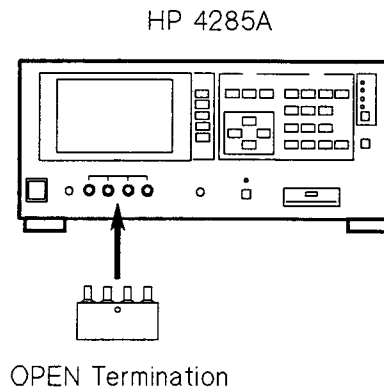
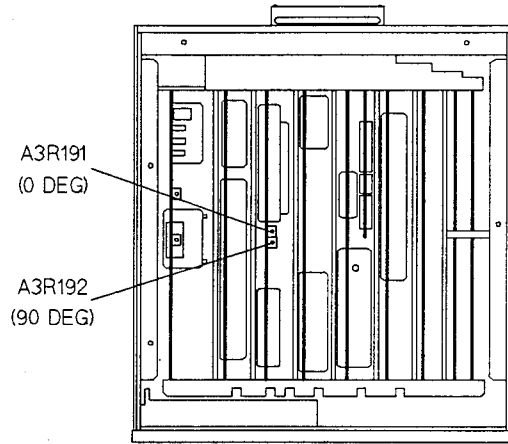

Figure 2-11. Zero Offset Adjustment Setup
Figure 2-12. Zero Offset Adjustment Location
3. Perform the Zero Offset adjustment according to the program instructions. Figure 2-11 shows the adjustment setup, Figure 2-12 shows the locations of A3R191 (0DEG) and A3R192 (90DEG).